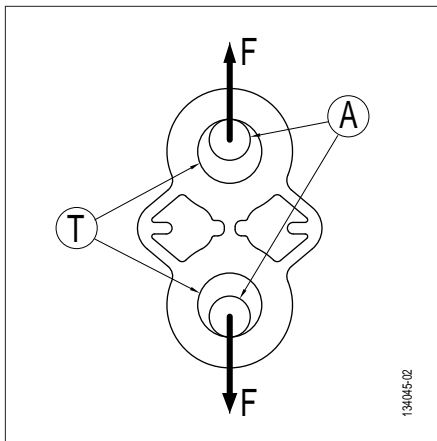
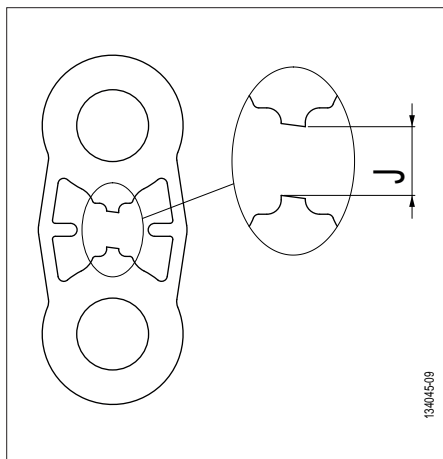

Fig. 2
Fig. 7
A full range of TA test plates has been developed in order to test anchor points in traction. The plate fastening holes (fig. 2, page 10, item T) are designed to receive high-strength bow shackles.
- Loading of the TA test plate (fig. 2, page 3).
- 2) Check that the TA test plate is correctly secured (fig. 2, page 10, and fig. 7, page 12).
DANGER: The maximum clearance 'J' (fig. 7, clearance J) must not exceed 15 mm.
- 2) On shearing of the 'S' control section of the TA test plate (fig. 7), the operator must immediately stop his action on the loading device. Failure to do so may result in total shearing of the plate.
8. Continue loading of the TA test plate after the 'S' control section (see 5.2, fig. 7) has sheared.